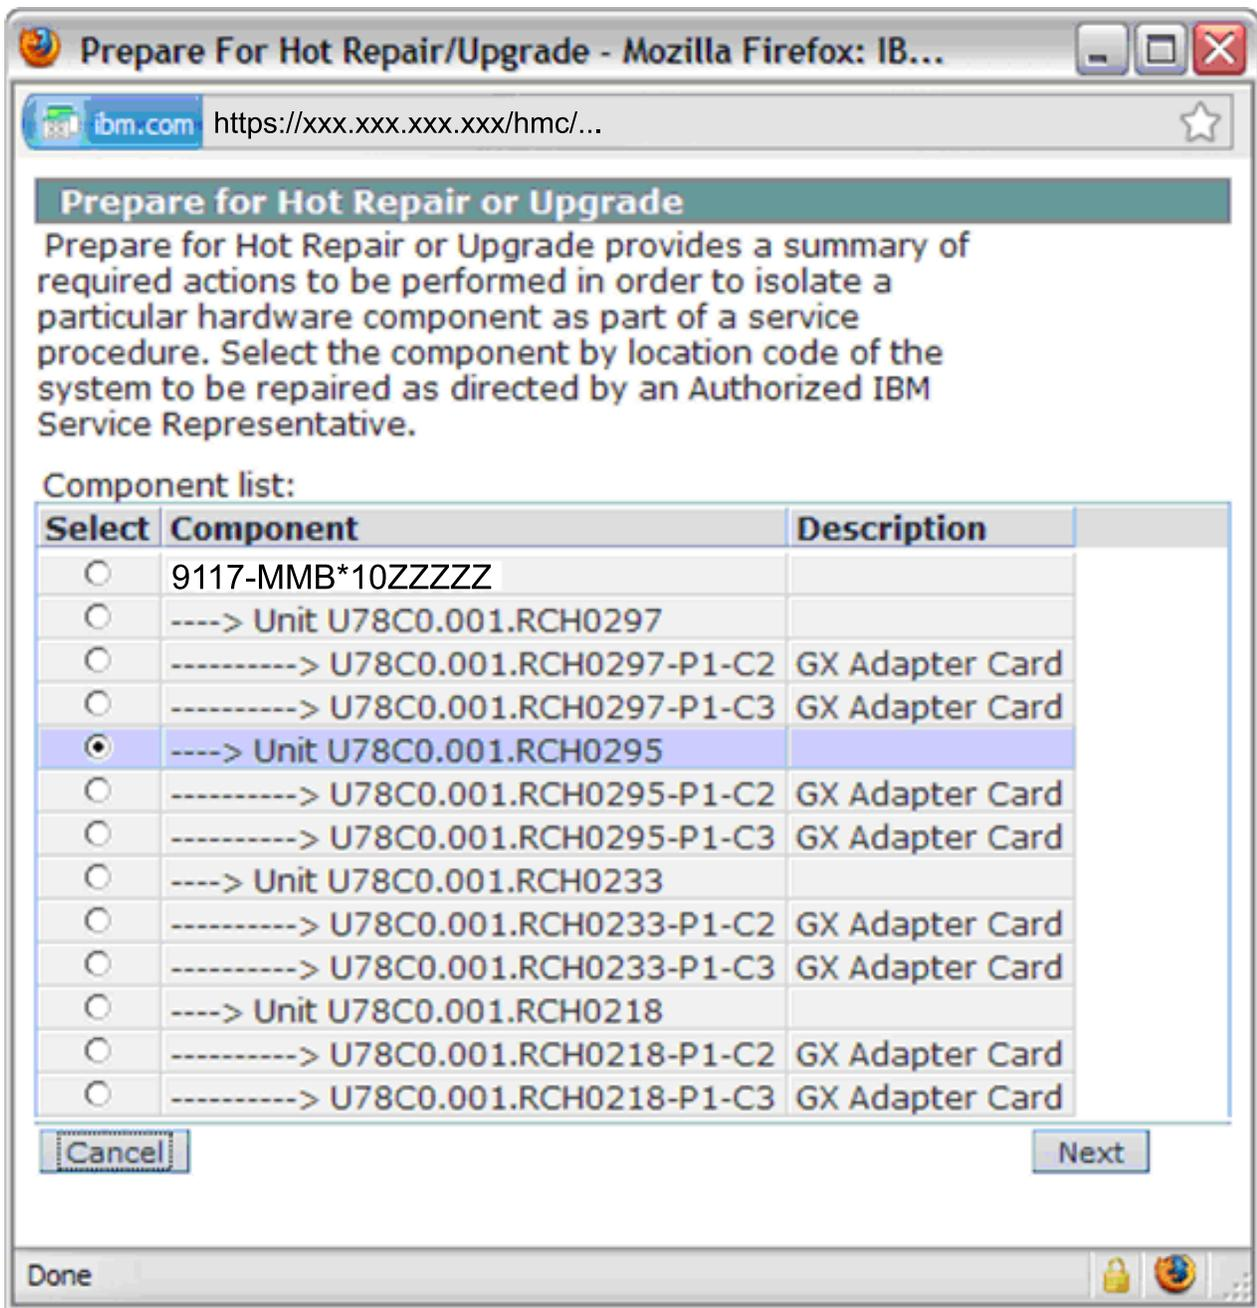

Figure 1. FRU selection within Prepare For Hot Repair or Upgrade Utility
4. Select the base location code that contains the field-replaceable unit (FRU) to be serviced or the GX adapter card to be replaced as shown in Figure 1 on page 16.